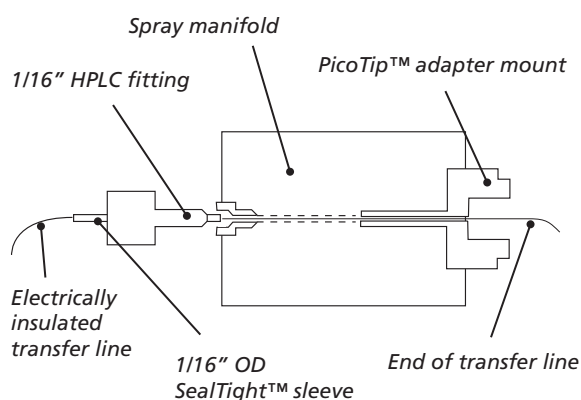

Figure 3: Cross-section of ESI manifold after conversion with ADPT-TLC / ADPT-TLD
9. Feed the tubing through the ESI manifold and the through-hole in the PicoTip adapter. Screw the 10-32 fitting into the sample port. Do not fully tighten to allow for sliding of the silica tubing (Figure 3).